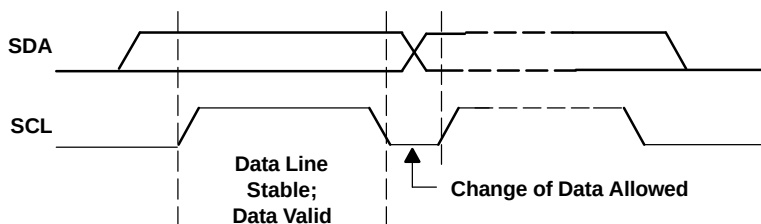
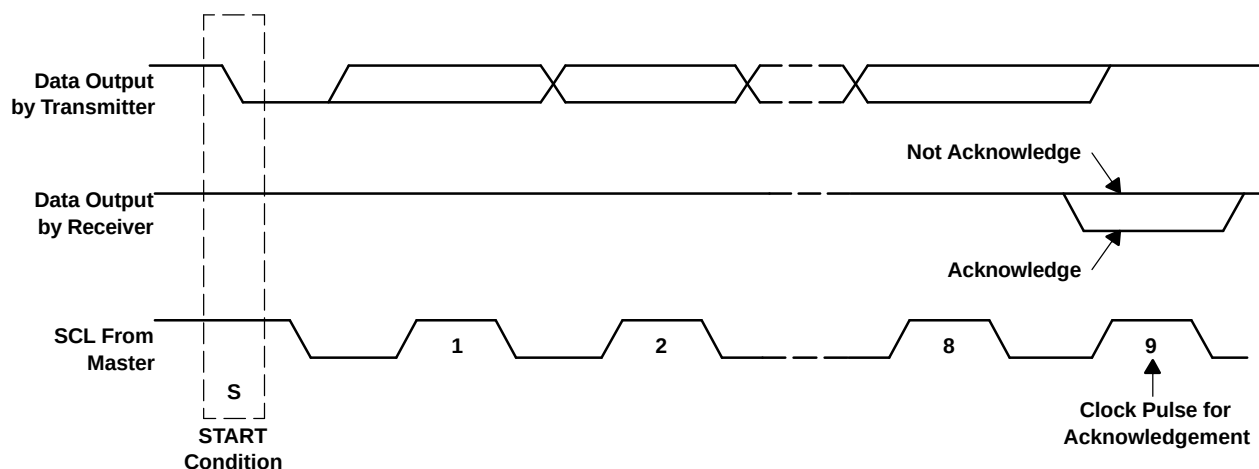

Figure 42. Bit Transfer on the I²C Bus
Figure 43. Acknowledge on the I²C Bus
- The master then generates the SCL pulses, and transmits the 7-bit address and the *read/write direction bit* $R/\overline{W}$ on the SDA line. During all transmissions, the master ensures that data is *valid*. A *valid data condition* requires the SDA line to be stable during the entire high period of the clock pulse (see Figure 42). All devices recognize the address sent by the master and compare it to their internal fixed addresses. Only the slave device with a matching address generates an *acknowledge* (see Figure 43) by pulling the SDA line low during the entire high period of the ninth SCL cycle. Upon detecting this acknowledge, the master knows that communication link with a slave has been established.